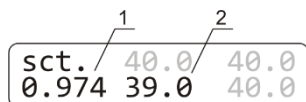

Figure 5. Changing the coefficient:
- 6.4.6 Using the **▲** and **▼ T, °C** keys, change the calibration coefficient (fig. 5/1) so that the new temperature value (fig. 5/2) corresponds to the independent sensor temperature. In our example, the calibration coefficient will be 0.974.